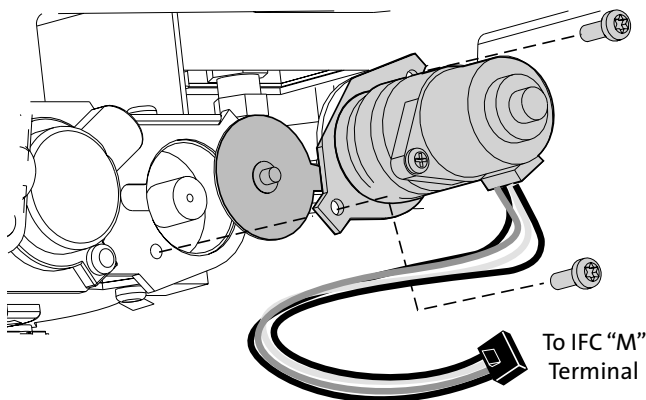

Figure 11.3. Flame Control Motor installation.
1. Using a Torx T-20 screwdriver, remove the two screws from the front of the manual regulator and remove those components as shown in fig. 11.3.
3. Connect the wire harness to terminal (M) on the near side of the IFC board, fig. 11.3.